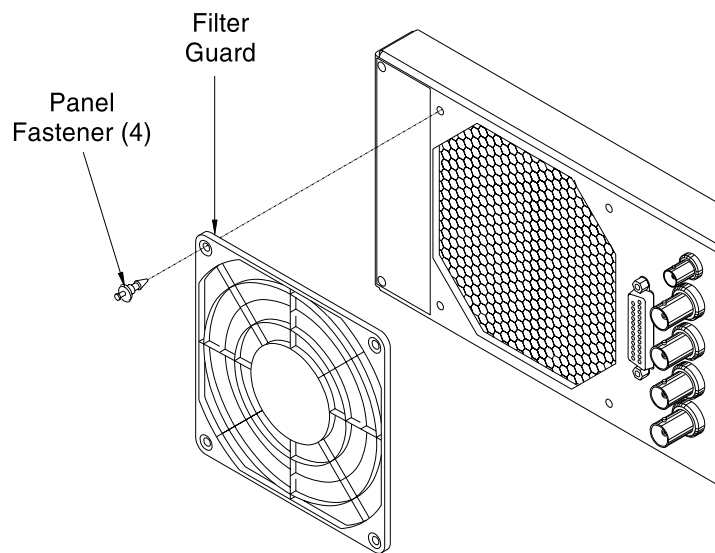

Figure 6-1. Removing/Replacing the Fan Filter Guard
- Step 1** Remove the filter guard from the rear panel by pulling out on the four panel fasteners holding them in place (Figure 6-1).